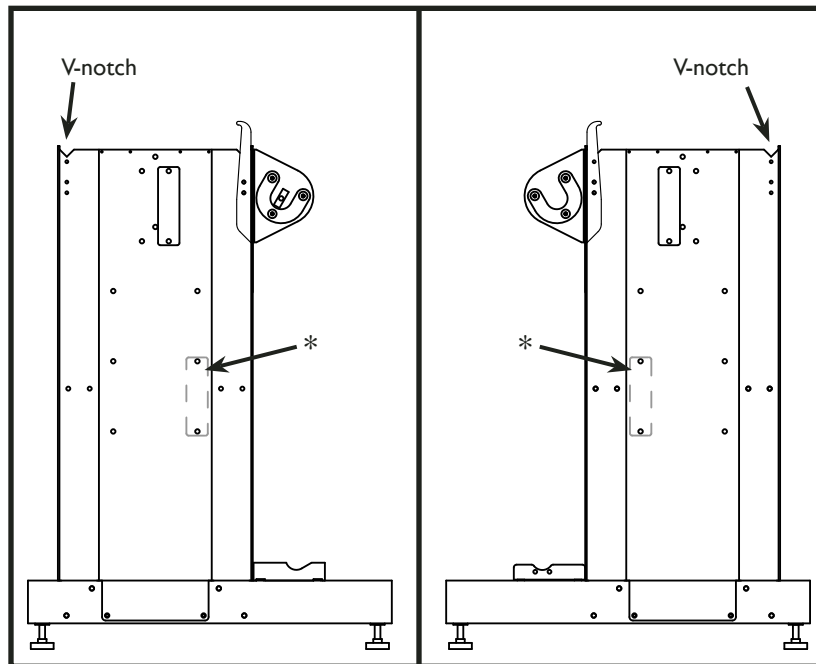

Figure 7. Cross-member position on left leg (above right) and right leg (above left).
1. Using two people, lift the printer head onto the stand. The front (carriage side) of the printer should face the same direction as the support blocks. Make sure the pin at the rear of each endplate rests in the 'V'-shaped notch in the rear of both legs. (See *Figure 7*.)